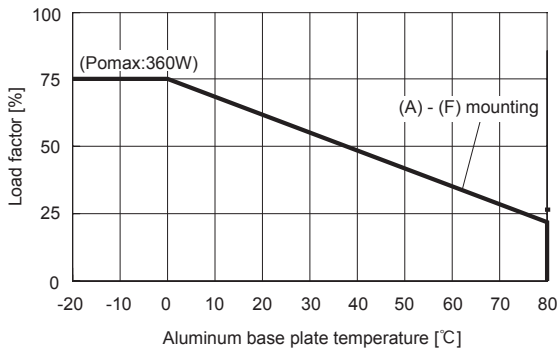

Fig.3.7 Conduction cooling derating curve (Reference value)
①	Line Filter	L101	115	115
②	Varistor	SK101	76	76
③	Input Capacitor	C106	89	89
④	Output Capacitor	C506	87	87
⑤	Rectifier	SS11	120	120	case temperature
⑥	Transformer	T11	110	110
⑦	Output Choke	L51	115	115
⑧	Aluminum base plate	-	*	-
* Operating ambient temperature derating of Conduction cooling (Fig.3.7)